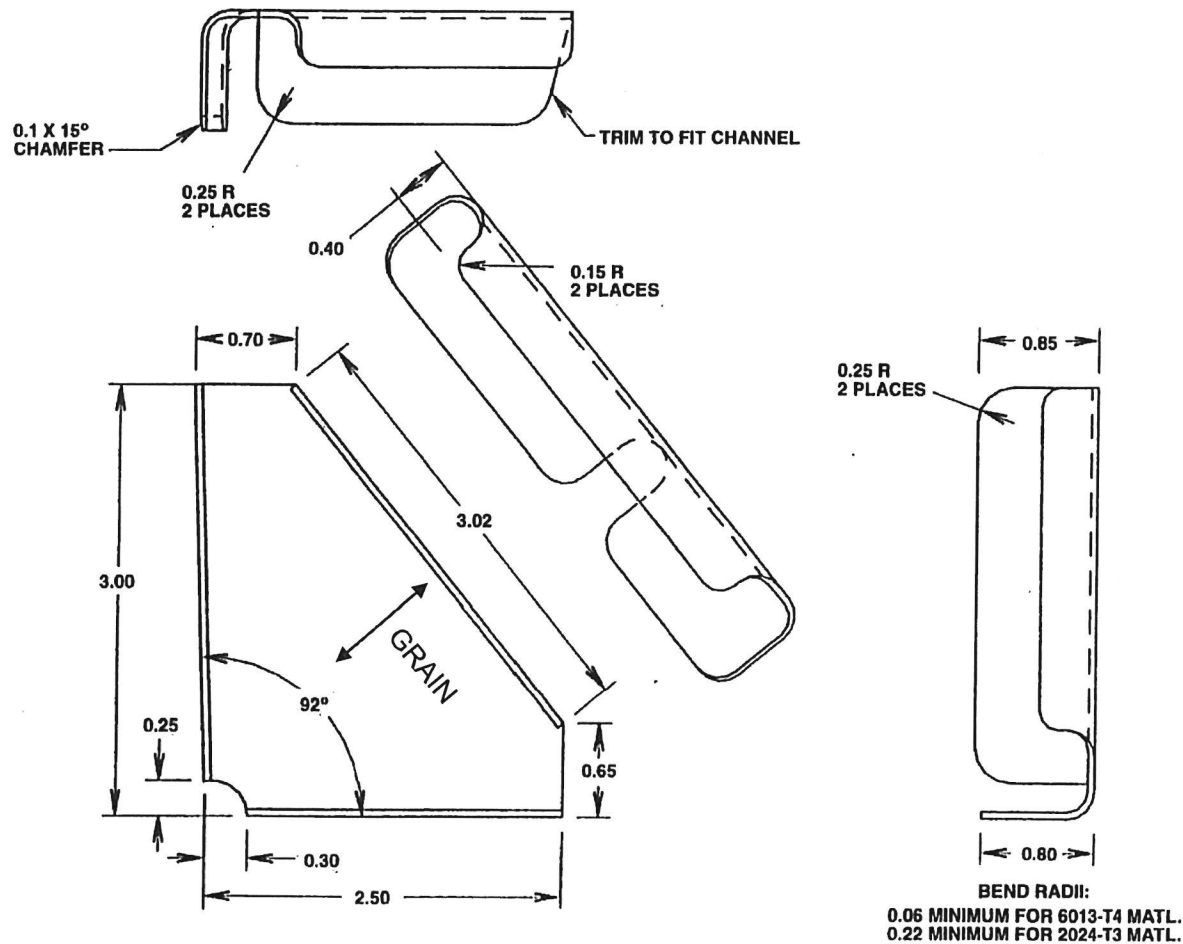

Figure 5 TB-E212-725-7-11/-12 Bracket
9. Prepare TB-E212-725-11 (-12 Opposite) Bracket as shown in Figure 5. Break all sharp edges.